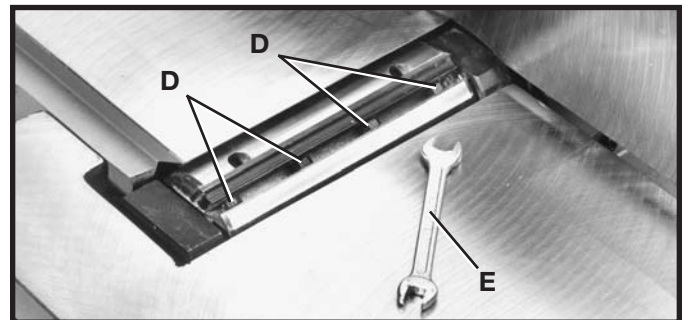
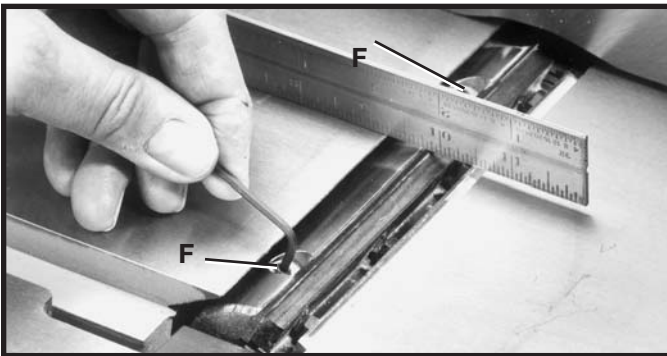

Fig. 41
Fig. 42
5. If the knife is high or low at either end, slightly turn the four screws (D) Fig. 41, in the knife locking bar clockwise to loosen using the wrench (E) supplied. Then adjust the height of the knife by turning the knife raising screws (F) Fig. 42, counterclockwise to lower and clockwise to raise the knife.